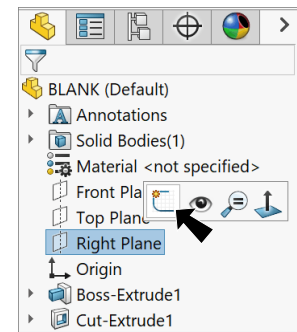

Fig. 13
Step 1. Click **Right Plane**  in the Feature Manager and click **Sketch**  on the context toolbar, **Fig. 13**.
Step 3. Click **Circle**  (S) on the Sketch toolbar.